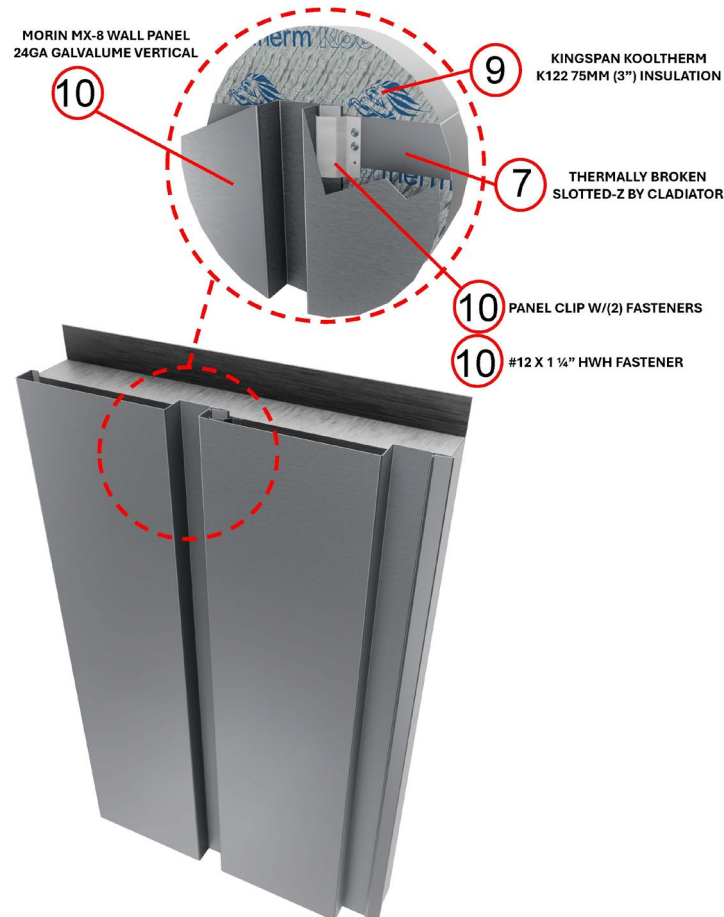

Figure 1 – Wall Construction
10. **EXTERIOR CLADDING:** Morin MX-8 Wall Cladding Panels (CCRR-0499) must be oriented vertically and must be attached to the Slotted-Z framing members with Matrix Series galvanized clips, which use two 2-1/4 in. #14 screws per clip. See Figures 1, 6, 7 and 8.